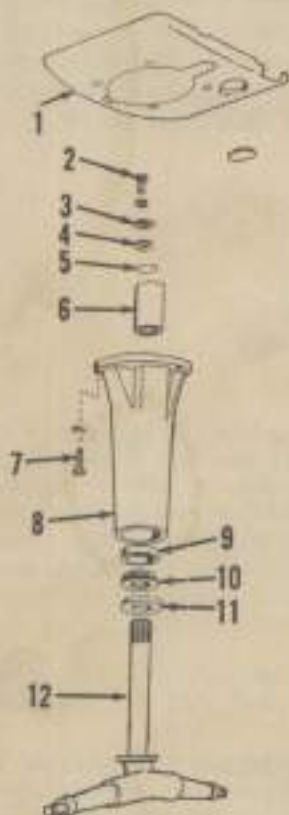

Fig. 4—Exploded view of typical pedestal and associated parts.
4. R&R PEDESTAL. Raise front of tractor, then remove cap screws retaining pedestal to front support casting. The splined coupling (6—Fig. 4) will be removed with the pedestal assembly.
5. OVERHAUL. To overhaul the removed unit, remove cap screw (2—Fig. 4), washer (3), shims (4) and coupling (6). NOTE: Make certain that shims (4) are not lost or damaged as they provide the proper bearing adjustment. With splined coupling removed, spindle shaft can be withdrawn from pedestal. Pack bearing (10) with No. 2 wheel bearing grease. Oil seal (11) is of the lip type and should be installed with lip towards bearing. Coupling should be installed on spindle shaft with end of coupling nearest internal snap ring downward. When reassembling, vary the number of shims (4) to provide shaft with a free rolling fit and no end play.